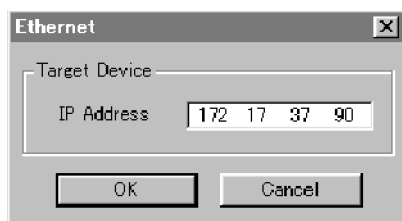

Figure 5: Ethernet dialog box for TG7 Comm
1. Select **Network** from the **Utility** menu of the TG7 Comm application. This will open the Ethernet dialog box. (See Figure 5.)